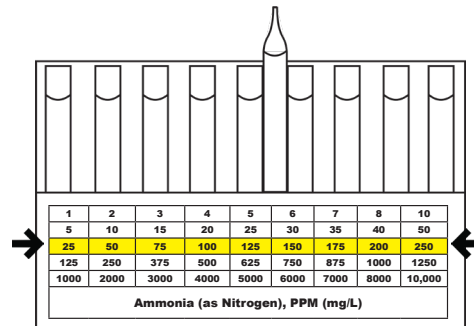

Figure 3
6. Obtain a test result by placing the ampoule between the color standards until the best color match is found (fig. 3).